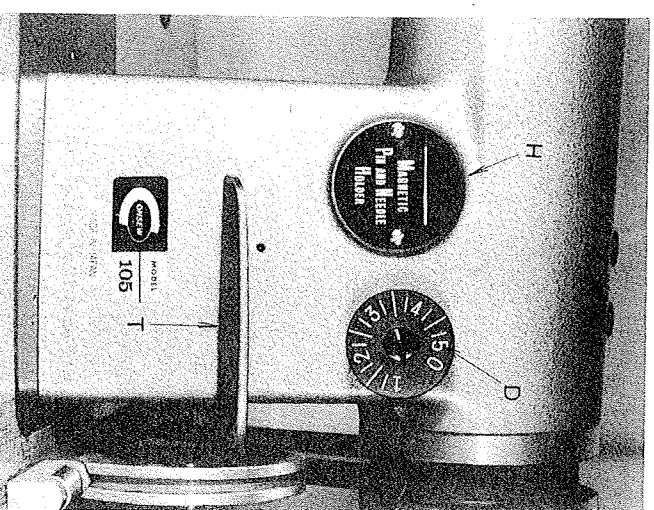

Fig. 11
The stitch length is regulated by the turning dial (D) at the front of the machine (Fig. 11).
- 2) Turning the dial counterclockwise will gradually increase the stitch length until the maximum is reached when number "5" is on top. As the stitch length is increased, it can be noticed that the tacking lever (T) slowly moves in upward direction.
- 3) When shortening the stitch length, it will be found of advantage to depress the lever (T) slightly as the dial (D) is being turned clockwise.
- 4) To do tacking for the purpose of locking the ends of seams, rapidly depress and release the lever (T) as the needle approaches the edge of the material.
The pin and needle holder (H) (Fig. 11) contains a magnet. It is convenient to retain spare needles or pins.